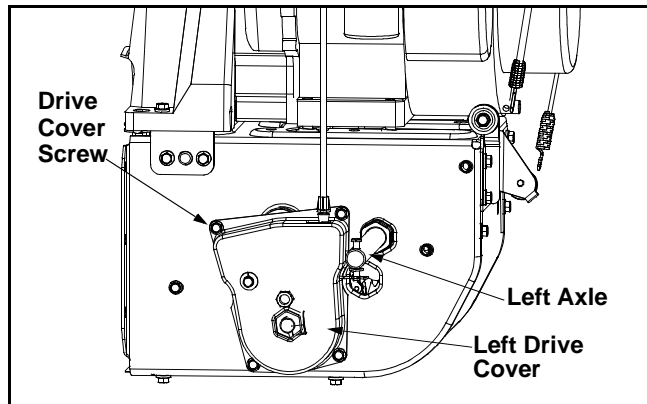

Figure 16
- Remove the four screws securing the left drive cover to the frame. Remove the drive cover. See Figure 16.